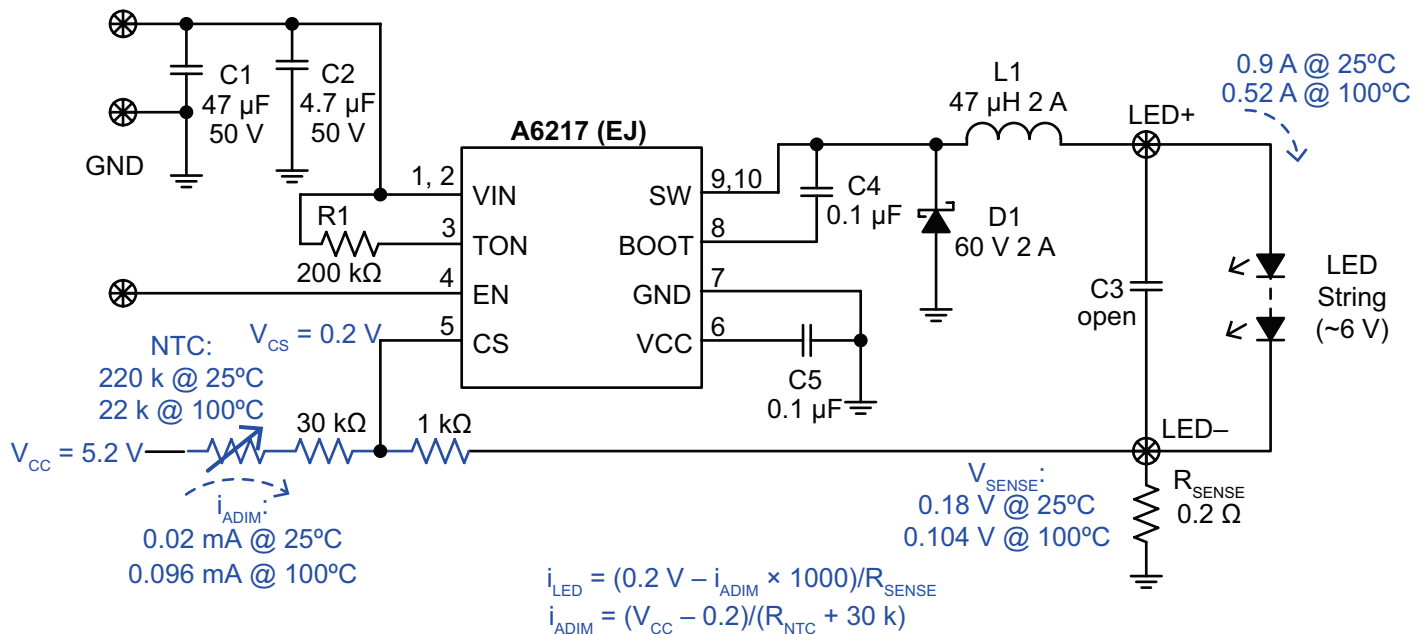

Figure 18: Thermal Foldback of LED Current Using NTC Resistor
- Figure 18 shows thermal de-rating of LED current by an NTC resistor